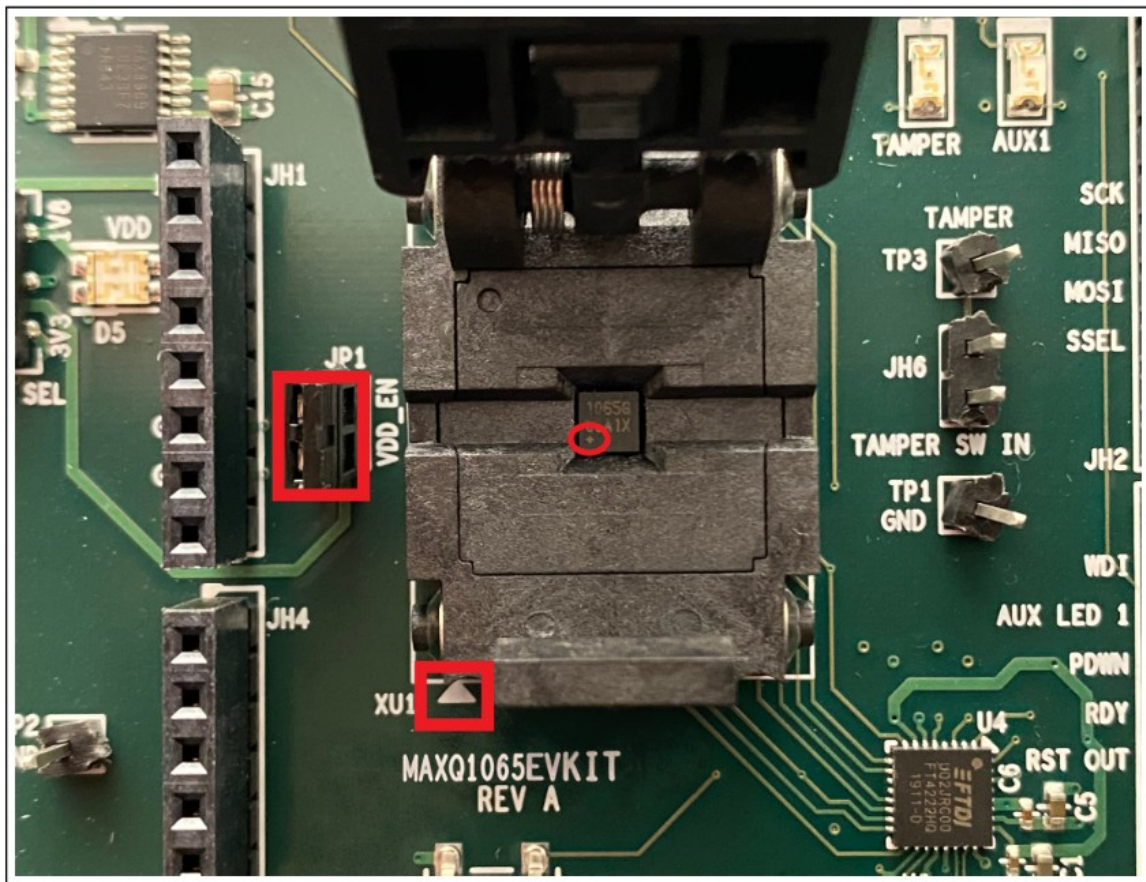

Figure 1. Proper Configuration of the MAXQ1065 Socket Board
Note: The plus (+) on the package must be aligned with the white arrow on the PCB, as shown in Figure 1.
2. Install a jumper on VDD_EN (JP1), as shown in Figure 1.